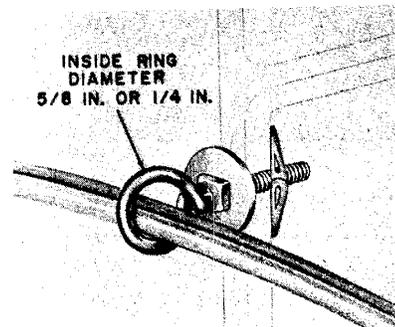

Fig. 10 — Toggle Bridle Ring
**TOGGLE BRIDLE RING (Fig. 10)**